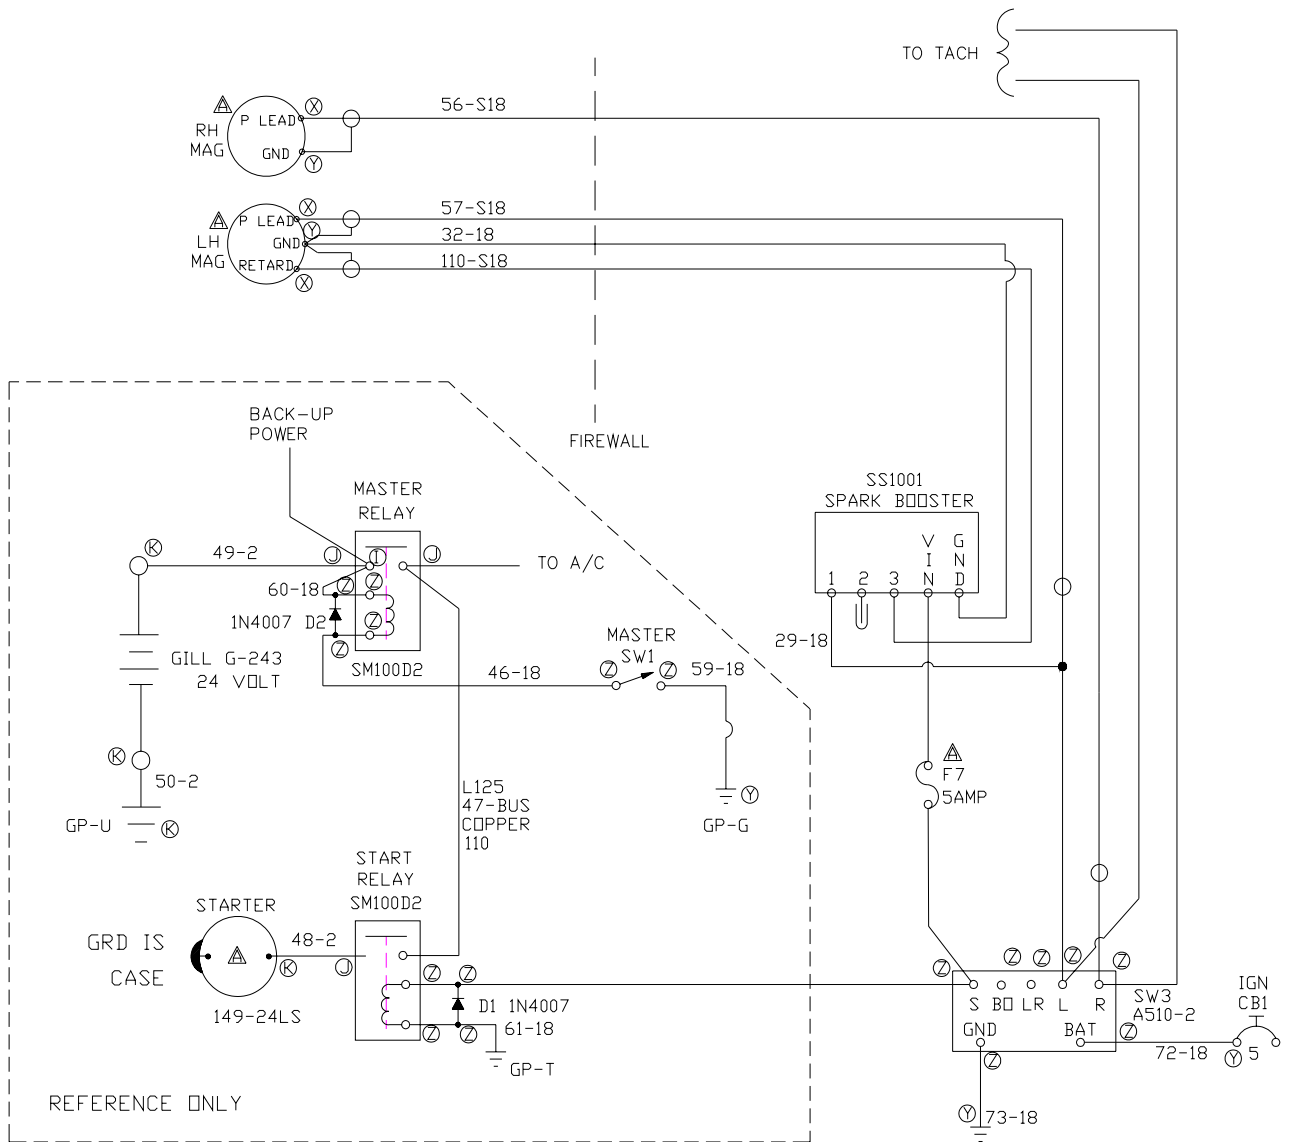

FIGURE 1 SCHEMATIC – IGNITION SYSTEM
2. Figure 1 illustrates the schematic for modified ignition circuit. It may be used as a reference as the following procedure is accomplished.